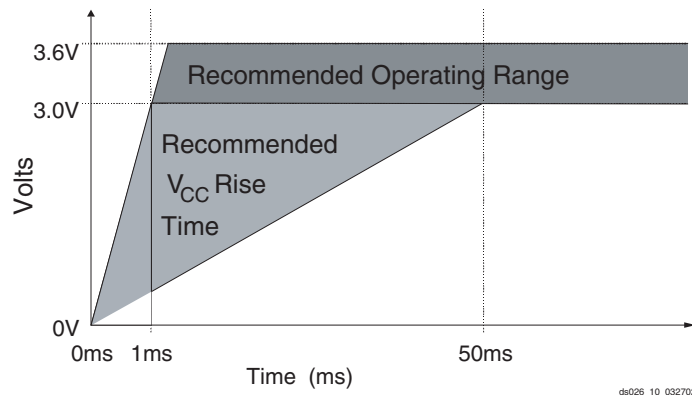

Figure 8: V_{CC} Power-Up Requirements
On power up, OE/RESET is held low until the XC18V00 is active (1 ms). OE/RESET is connected to an external resistor to pull OE/RESET HIGH releasing the FPGA INIT and allowing configuration to begin. If the power drops below 2.0V, the PROM resets. OE/RESET polarity is *not* programmable. See Figure 8 for power-up requirements.
- At power up, the device requires the V_{CC} power supply to monotonically rise from 0V to nominal voltage within the specified V_{CC} rise time. If the power supply cannot meet this requirement, then the device might not perform power-on-reset properly. See Figure 8.